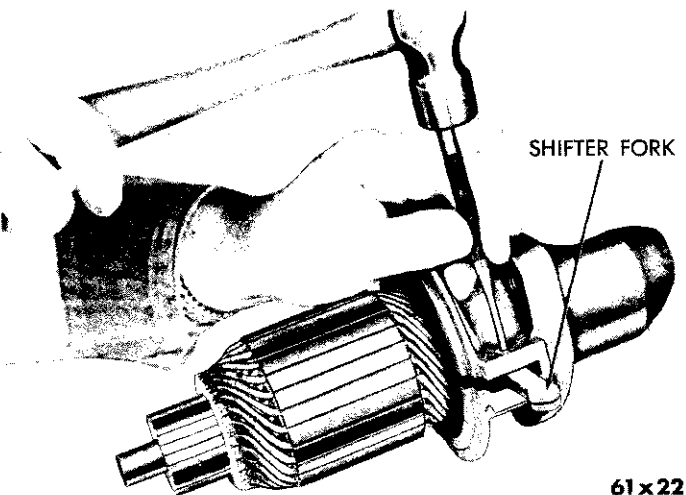
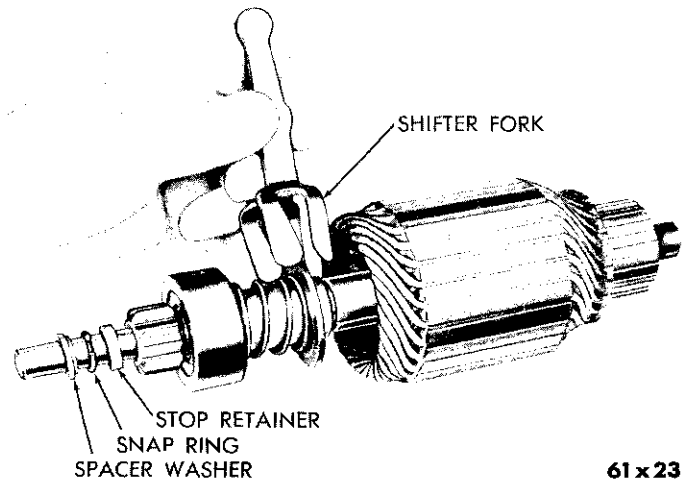

Fig. 5—Removing or Installing Shifter Fork Pivot Pin
Fig. 6—Removing or Installing Shifter Fork
(7) Drive out the overrunning clutch shift fork pivot pin (Fig. 5).
(8) Remove the drive end pinion housing and spacer washer.
(9) Note position of shifter fork on the starter drive and remove the shifter fork (Fig. 6).
(10) Slide the overrunning clutch pinion gear toward commutator end of armature, drive the stop retainer toward the clutch pinion gear to expose the snap ring and remove the snap ring.
(11) Slide the overrunning clutch drive from the armature shaft.
(1) Lubricate the armature shaft and splines with SAE 10W oil or 30W rust preventive oil.
(2) Install the starter drive, stop collar (retainer), the lock ring and the spacer washer.
(3) Install the shifter fork over the starter drive spring retainer washer with the narrow leg of fork toward commutator (Fig. 6). This is important, if fork is not properly positioned, the starter gear travel will be restricted causing a lockup in the clutch mechanism.
(4) Install the drive end (pinion) housing on the armature shaft, indexing the shifting fork with the slot in the drive end of the housing.
(5) Install the shifter fork pivot pin (Fig. 5).
(6) Install the armature with the clutch drive, shifter fork, and pinion housing; slide armature into field frame until the pinion housing indexes with the slot in the field frame.